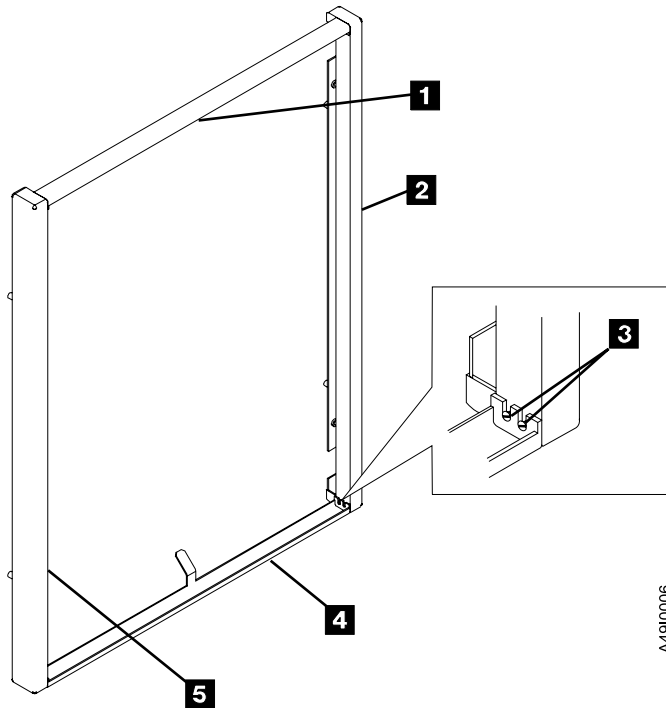

Figure 8. Filler Strip and Bezel Strip Assembly
- ___ Step a. Arrange the 2 filler strips 1 and 4, and 2 bezel strips 2 and 5, and fasten together with 2 screws 3 (typical 2 screws each corner) at each corner. See Figure 8.